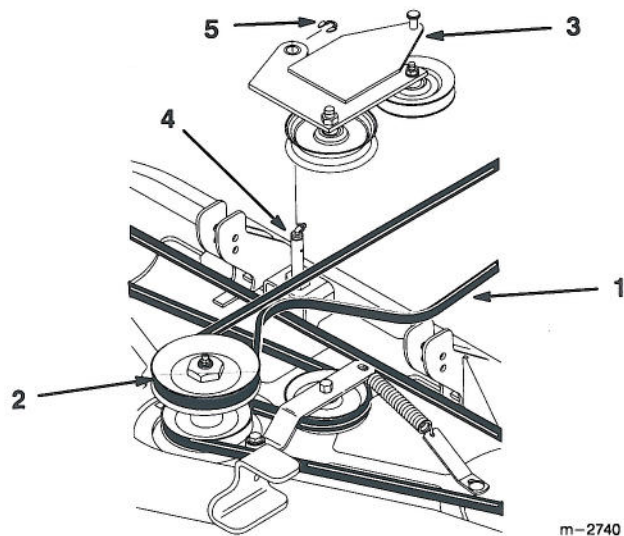

Figure 3
3. Route drive belt around top pulley of mower and idler pulleys on pivot plate (Fig. 3).
4. Place idler plate over pivot pin and secure with retaining ring (Fig. 3).